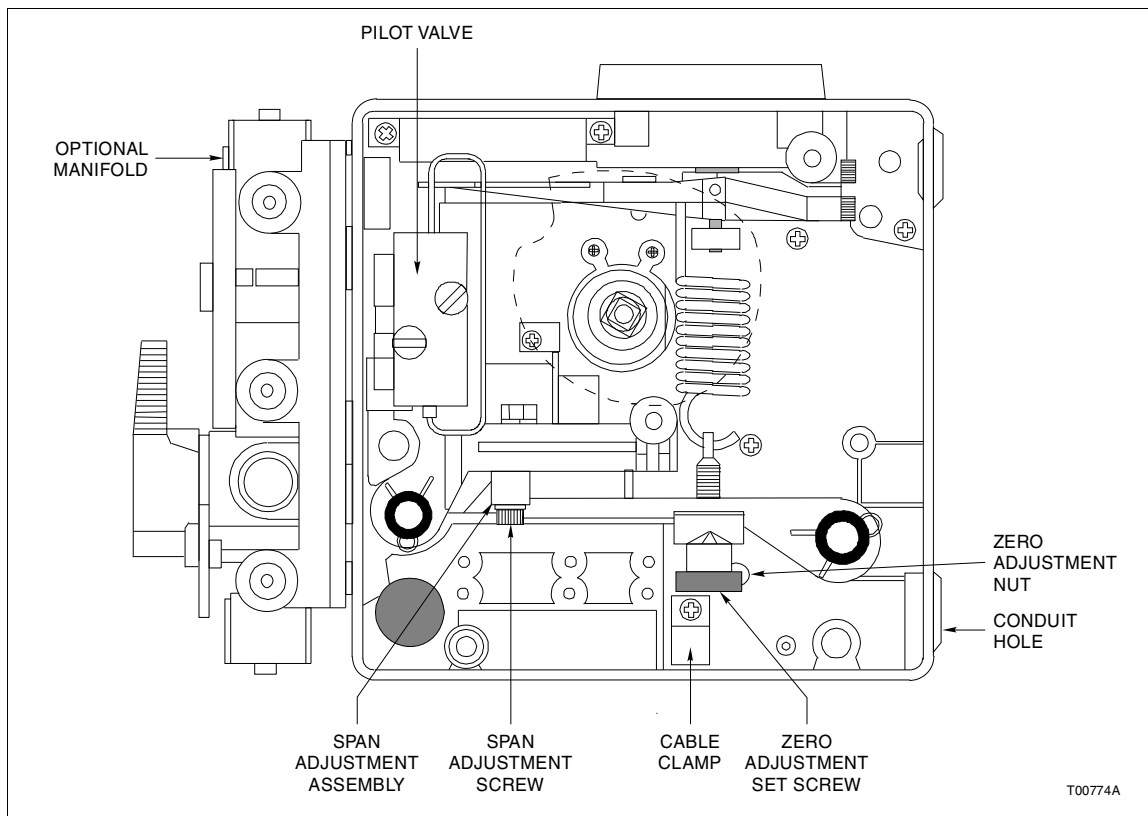

Figure 4-1. Calibration Adjustments
2. To adjust the zero, loosen the zero adjustment set screw (Fig. 4-1) with the  $\frac{3}{32}$ -inch Allen wrench.
2. To adjust the span, loosen the span adjustment screw (Fig. 4-1) using a  $\frac{3}{32}$ -inch Allen wrench.
3. Slide the span adjustment assembly (Fig. 4-1) in the appropriate direction until the actuator moves to align the 100% radial line with the center of the cam roller (toward pilot valve increases span of actuator).